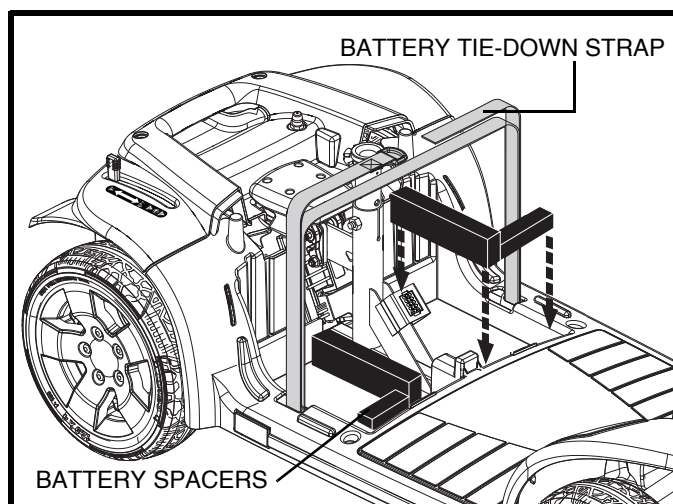

Figure 24. Battery Spacers
6. Reinstall the battery spacers if applicable. **See figure 24.**